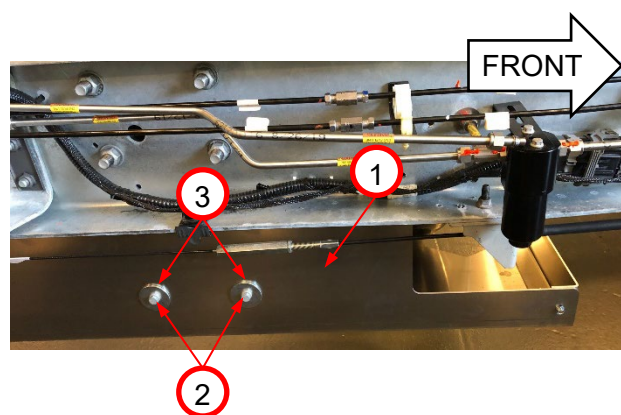

Figure 2:
4. Remove four fasteners (2) securing cylinder shield to outside cylinder mount bracket clips (*not visible*). *Figure 2*
5. Remove four fasteners securing cylinder shield to outside cylinder mount bracket clips (*not visible*). *Figure 2*